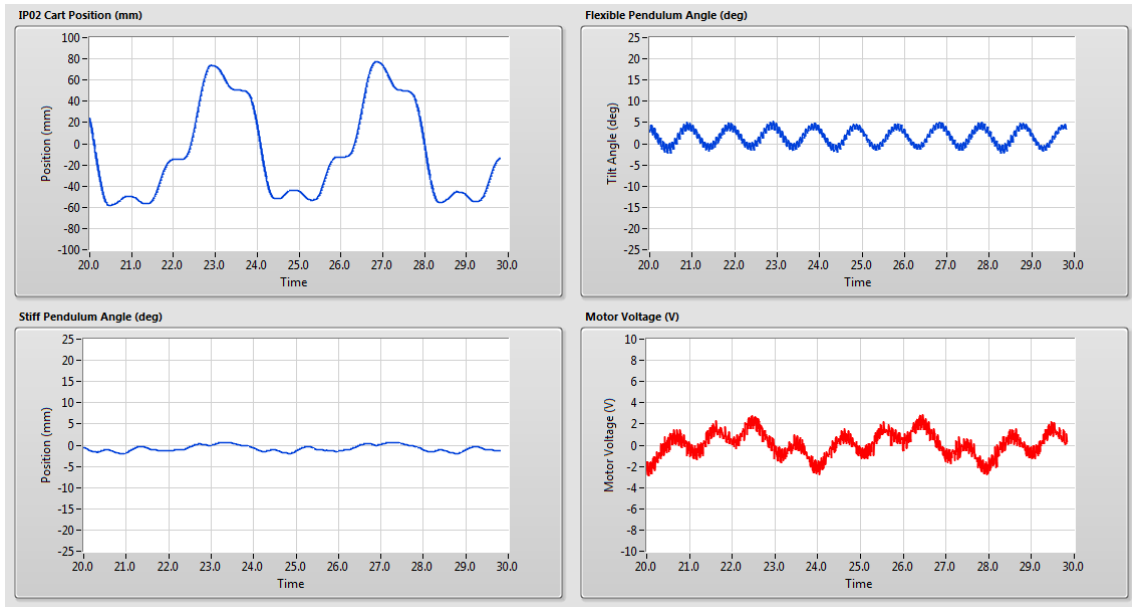

Figure 3.4: Typical response when balancing the FLEXPEN system
5. Once the controller is running, slowly raise the pendulums counter-clockwise (CCW) to their upright vertical position. You should feel the motor voltage kick-in when it is within the range where the balance control engages. The scopes should be displaying responses similar to Figure 3.4.